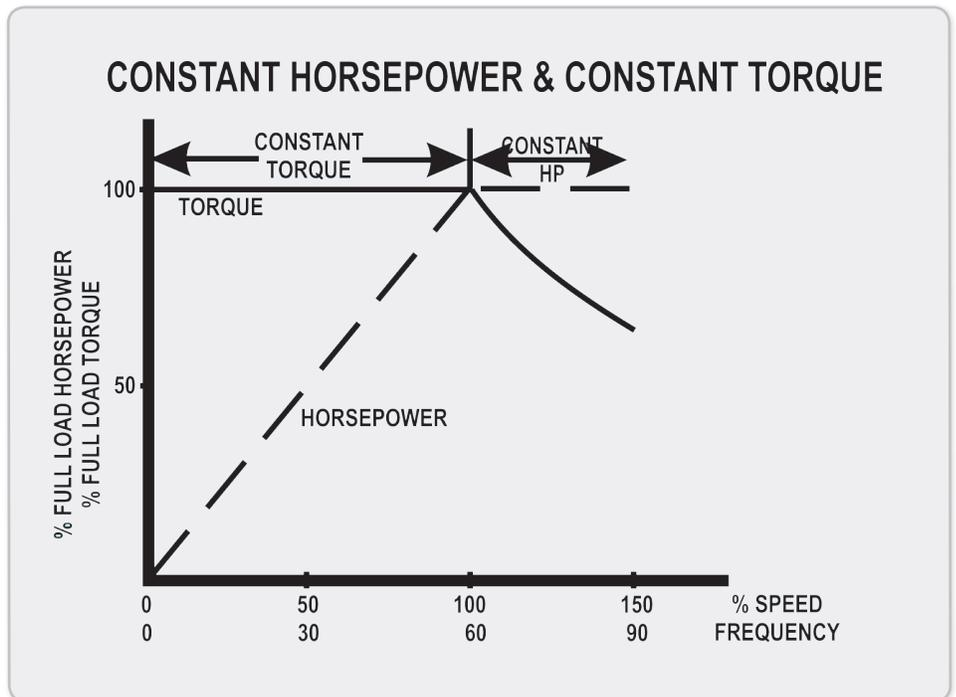

Figure 7
At the 60 Hz operating speed in the above example, the voltage output is two-thirds of the input, or line, voltage to the drive ((60 Hz/90 Hz) x 460 V = 308 V). The motor will not see the line voltage (460 V) from the VFD until the design output frequency of the VFD drive ramps up to 90 Hz. Below the design frequency synchronous speed, the horsepower producing capability of the motor is less and linear with speed (Figure 7). The power produced by the motor at the
Referencing Figure 7 again, an induction motor produces a constant torque from 0 to 60 Hz of line voltage. Because of this constant torque producing characteristic below 60 Hz, the motor is unable to produce the nameplate power (HP) at motor speeds less than 60 Hz of line voltage.
It is very important to note that a motor is always capable of delivering its nameplate horsepower at any speed above its 60 Hz synchronous speed. This is true as long as the load does not exceed the nameplate horsepower of the motor at the design condition fan speed. Remember, above the 60 Hz synchronous speed of a motor, the power producing capability of the motor is constant and cannot exceed the nameplate HP at the 60 Hz synchronous speed (refer to Figure 7). It cannot deliver more power than its nameplate rating. As a result, the load we are asking the motor to serve (fan BHP) cannot exceed the nameplate horsepower rating of the motor, at the design speed of the fan required to produce design airflow and static pressure.